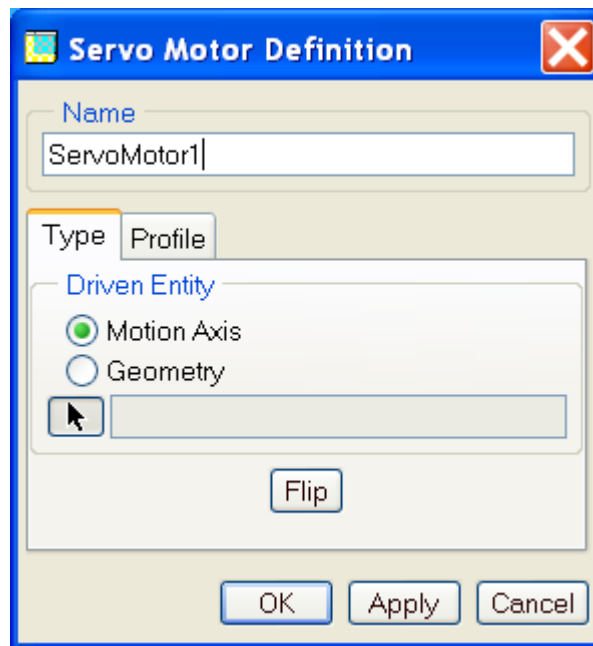

Figure 2
- b) Click **New**. The **Servo Motor Definition** dialog box opens as shown in figure 2.